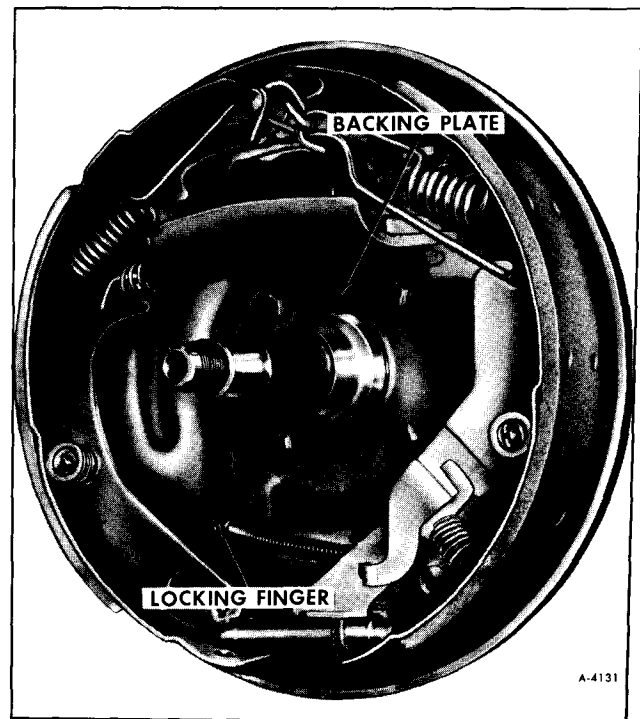

Figure 29—Locking Finger
6. Compress the locking fingers and pull the rear cable from the backing plate refer to Figure 29.